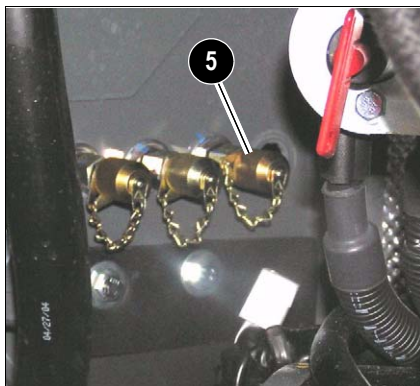

Fig. 17: Pilot control pressure measuring port
1. Connect a pressure gauge to measuring port MP (5), Fig. 17.